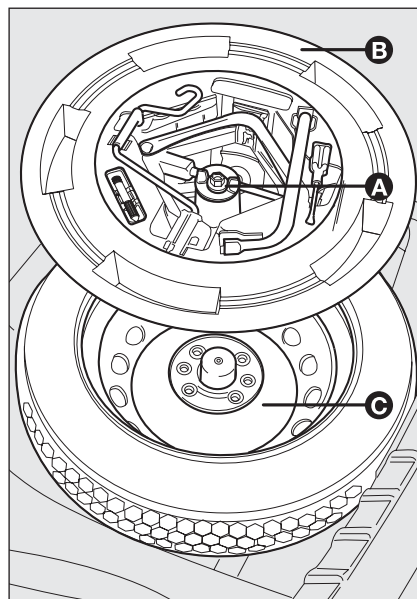

fig. 10
- ☐ Loosen the clamping device **A**-fig. 10;
- ☐ Take out the tool container **B**-fig. 10 and take it near to the wheel to be changed;
- ☐ Take the spare wheel **C**-fig. 10;